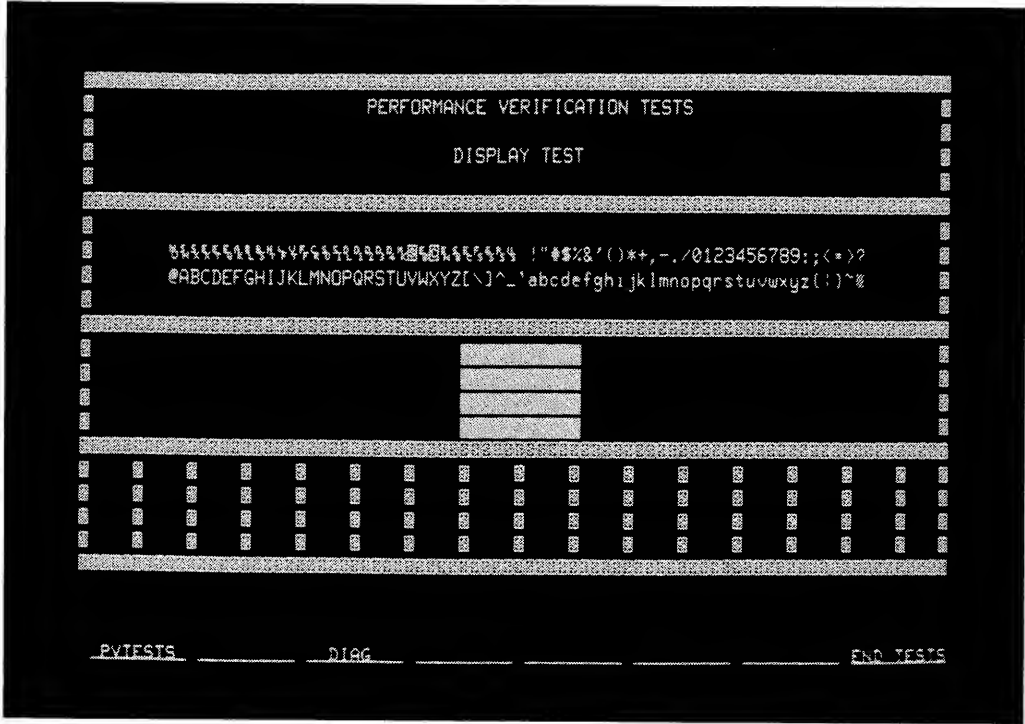

Figure 4-1. Display Test Pattern
- b. Turn power OFF then back ON. The display test pattern, figure 4-1, should be on screen.